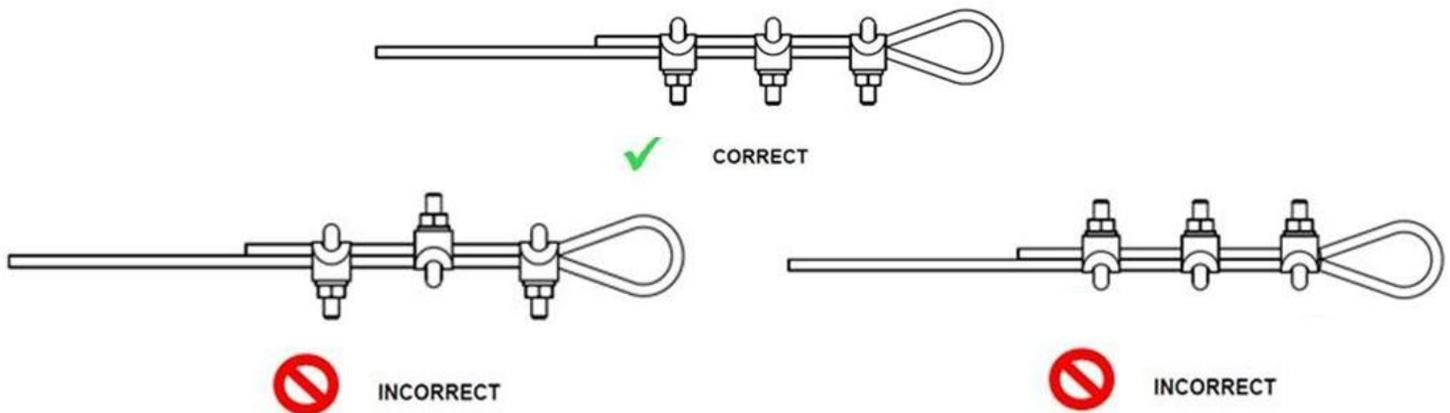

FIG. 01
- Please take note on proper Saddling of Wire Rope Adjustable Clips onto the Wire Rope [SEE – FIG. 01].